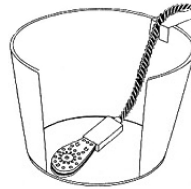

Figure 1
1. Route the power cord through the bracket as shown in Figure 1.